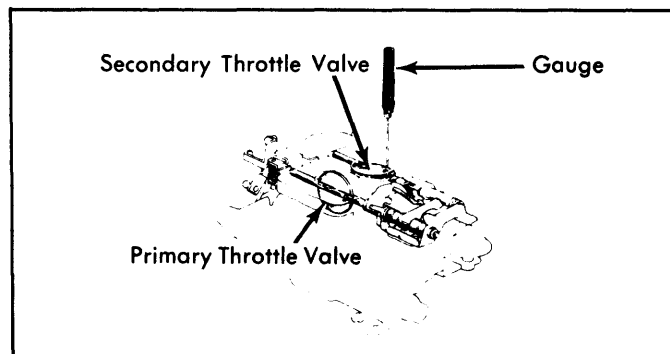

Fig. 7: Secondary Throttle Valve Adjustment
1) Open primary throttle valve to wide open position. Clearance between secondary throttle valve and bore should be .08" (.2 mm) on Corona, .016" (.4 mm) on Cressida. See Fig. 7. Adjust by bending secondary kick-up arm.